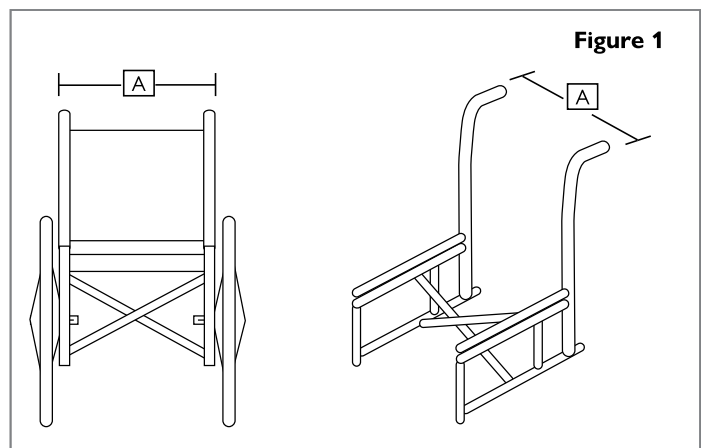

Figure 1
Back Model Number	Width of back canes from outside to outside of the tubes (Fig 1 - A)
3. Locate the pockets (see illustration 1 & 2 of Figure 1 2) in the cover at the lateral walls of the cushion.
4. Insert the left support into the left pocket (Fig. 1 2) and the right support into the right pocket.